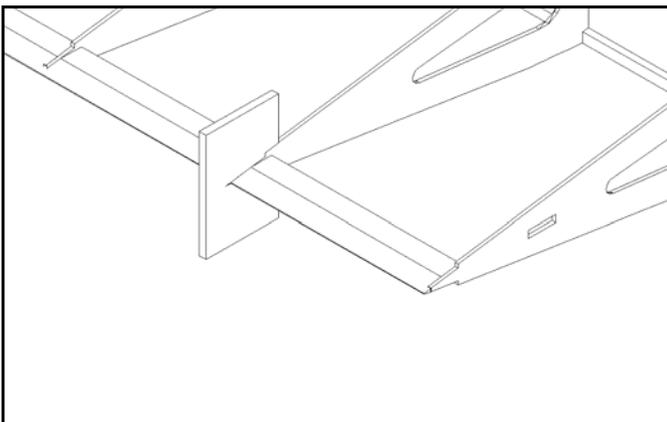
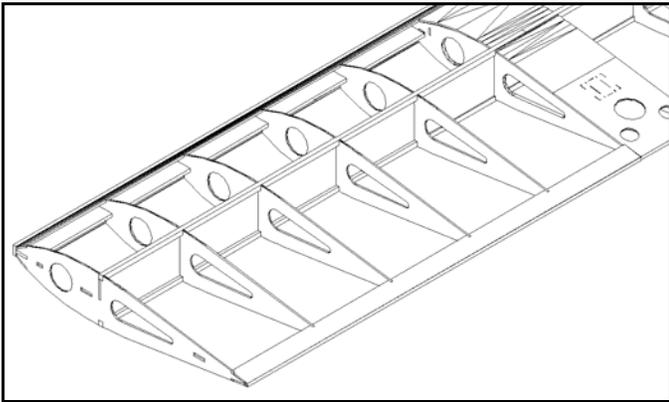

Figure 9
Figure 13
9. Using thick CA glue, tack glue trailing edge to ribs using provided jig piece to align the trailing edge with the ribs. (Fig. 9) Install end ribs (Parts W7). (See Fig. 13)
13. Install $\frac{3}{4}$ " x $\frac{1}{16}$ " strips on trailing edge top and bottom (Fig. 13). With an X-acto knife, remove ailerons from trailing edge and set aside.